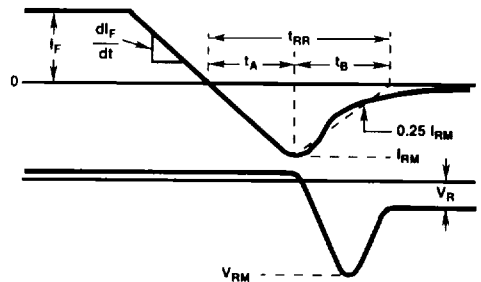

FIGURE 2. t_{RR} WAVEFORMS AND DEFINITIONS
- t_{RR} = Reverse recovery time (Figure 2), summation of $t_A + t_B$.
- t_A = Time to reach peak reverse current (See Figure 2).
- t_B = Time from peak I_{RM} to projected zero crossing of I_{RM} based on a straight line from peak I_{RM} through 25% of I_{RM} (See Figure 2).